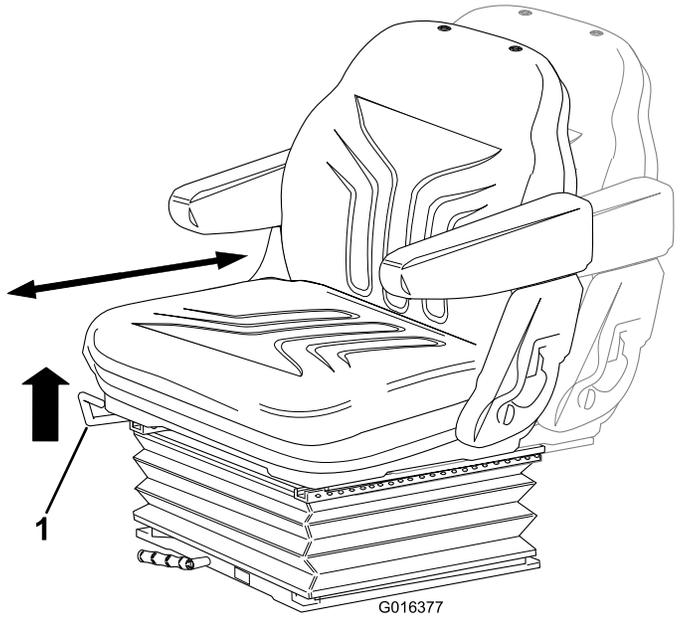

Figure 22
- Move the lever upward to adjust the forward/backward position of the seat (Figure 22).